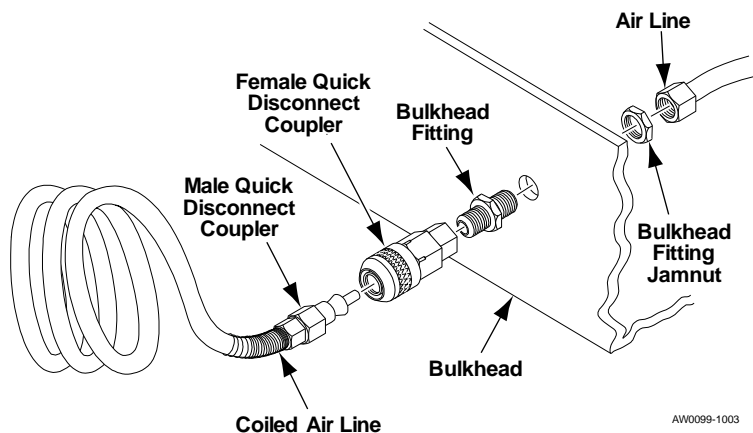

Figure 11. Installing Bulkhead Connector
10. Connect end of coiled air line (p/n: 380-0053-000) with male quick disconnect coupling to female quick disconnect coupling (p/n: 150-4092-000). See **Figure 11**.
disconnect fitting (p/n: 150-4092-000) on front bulkhead of trailer. See **Figure 11**.